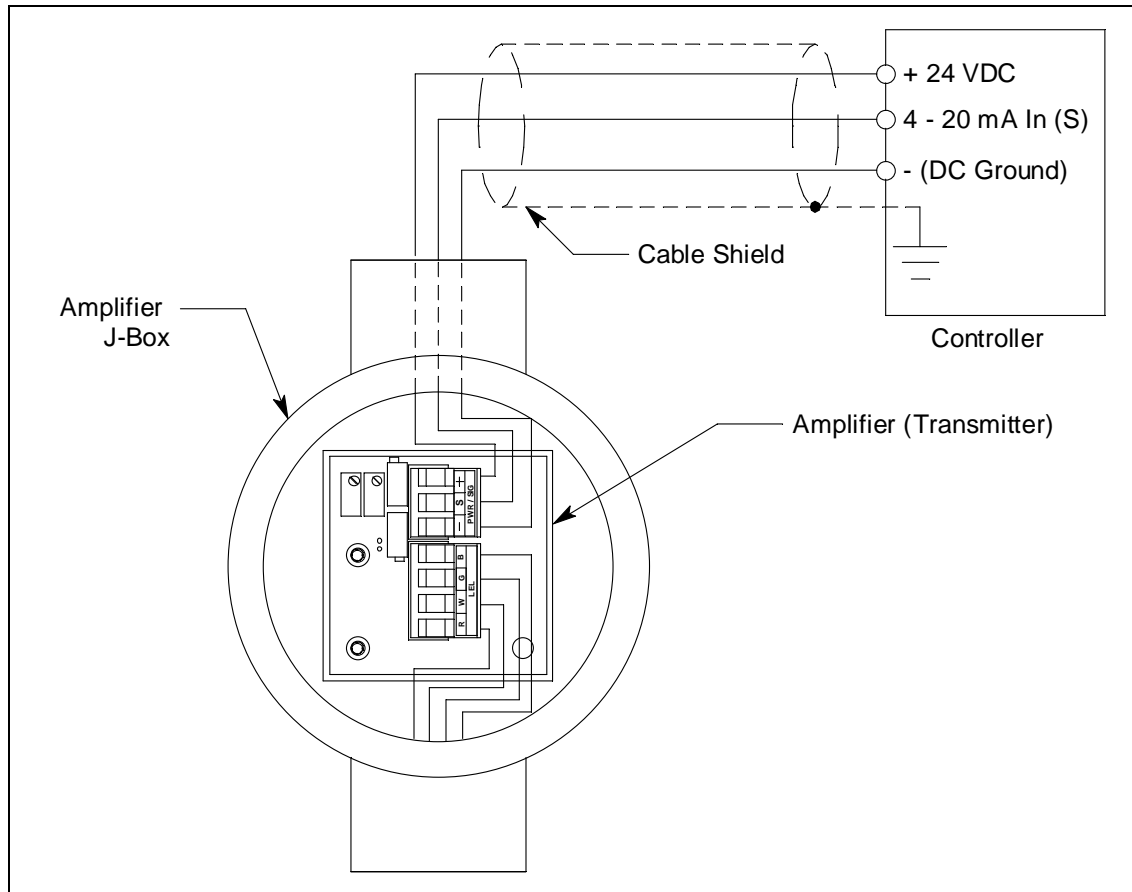

Figure 6: Wiring the Amplifier to a Controller
5. Pull out the controller terminal strip, and connect the three wires to the terminal strip as follows (see Figure 6).
9. Connect the wires to the applicable detector/transmitter terminal strip at the controller as shown in Figure 6.
8. Connect the detector leads to the detector terminal strip as shown in Table 3 below and Figure 6 on page 14 of this manual.